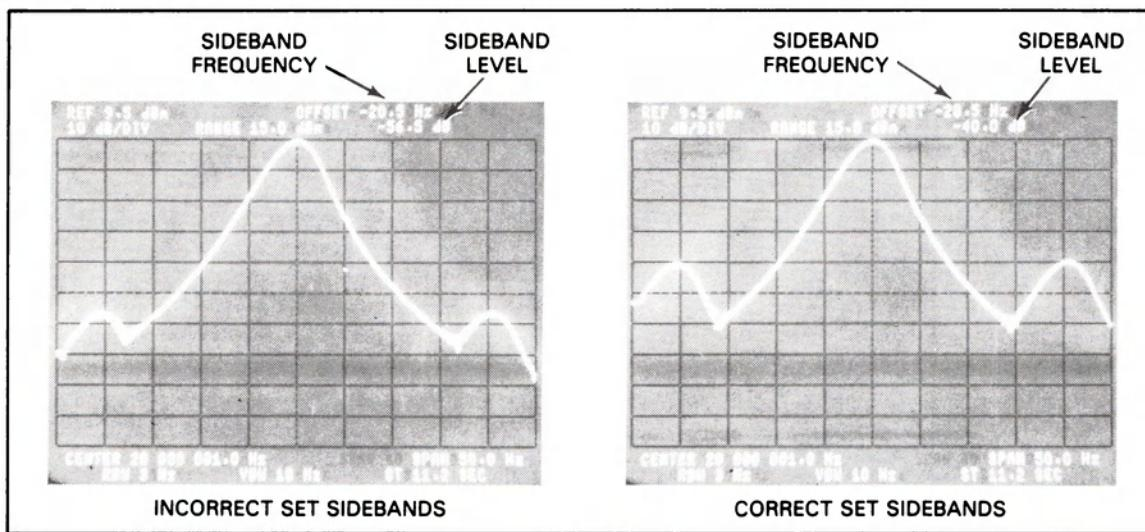

Figure 7-16. PM Discrete Tone Accuracy Test Adjustments
- g. Adjust the -hp- 3312A amplitude until the 20 Hz sidebands are approximately 40 dB below the 20 MHz carrier. (See Figure 7-16)